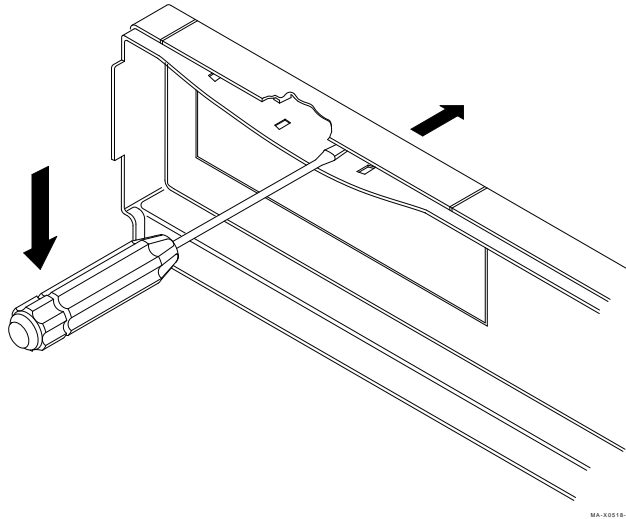

Figure 1-20 Separating the Bezel Insert from the Front Bezel
2. Separate the blank bezel insert from the front bezel (Figure 1-20).